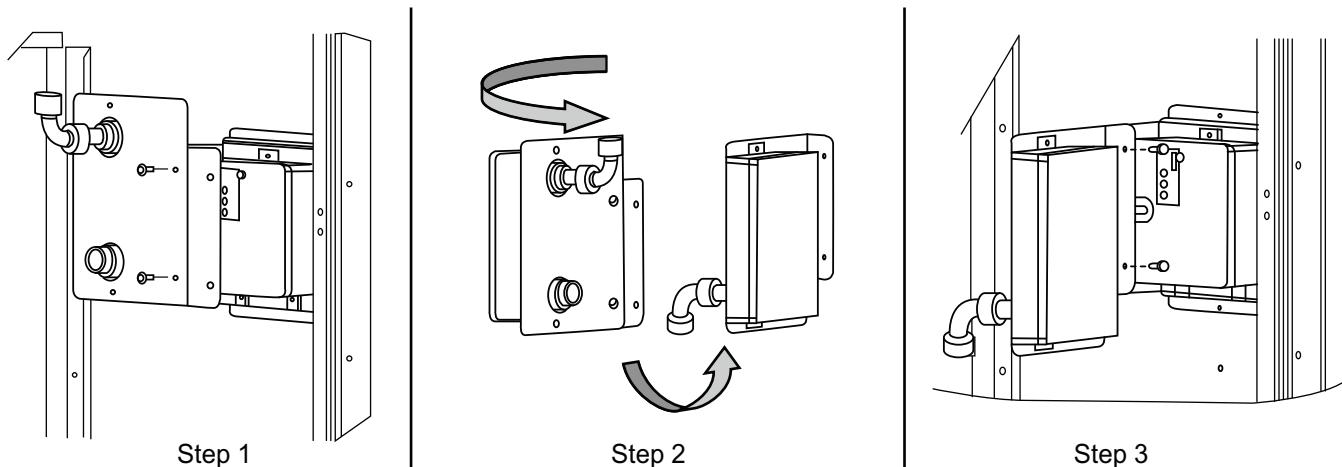

Fig. 72 — Completing Installation of Return-Air Smoke Sensor
1. Unscrew the two screws holding the return air smoke detector assembly. See Fig. 72, Step 1. Save the screws.
2. Turn the assembly 90 degrees and then rotate end to end. Make sure that the elbow fitting is pointing down. See Fig. 72, Step 2.
3. Screw the sensor and detector plate into its operating position using screws from Step 1. See Fig. 72, Step 3.